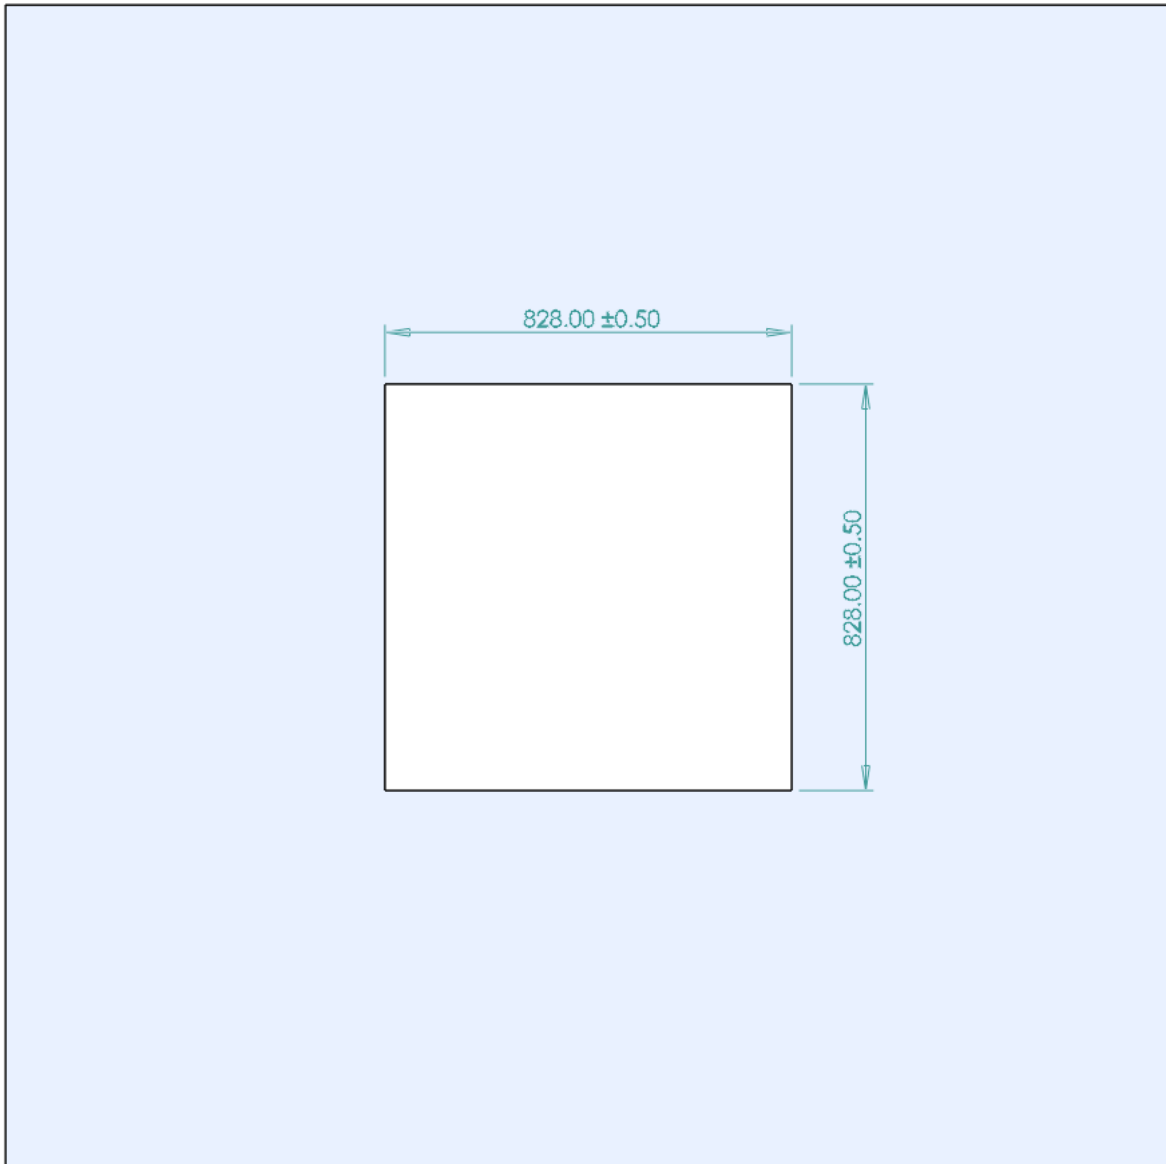

Figure 19 - Dimensions of roof opening.
1. Create roof opening of minimum 828mm x 828mm *on the horizontal* - see figure 19.